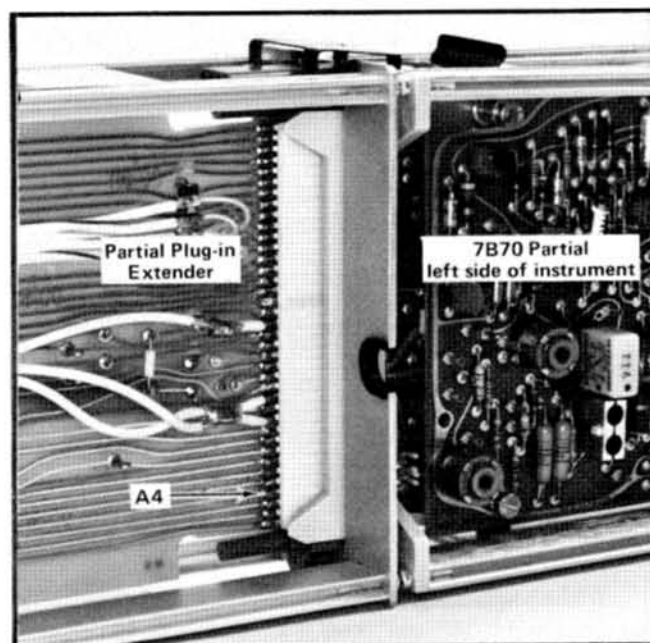

Fig. 5-5. Location of interface connector A4.
b. Connect a probe from the 7A16 Input to interface connector A4 (plug-in connector at the rear of the 7B70). See Fig. 5-5.